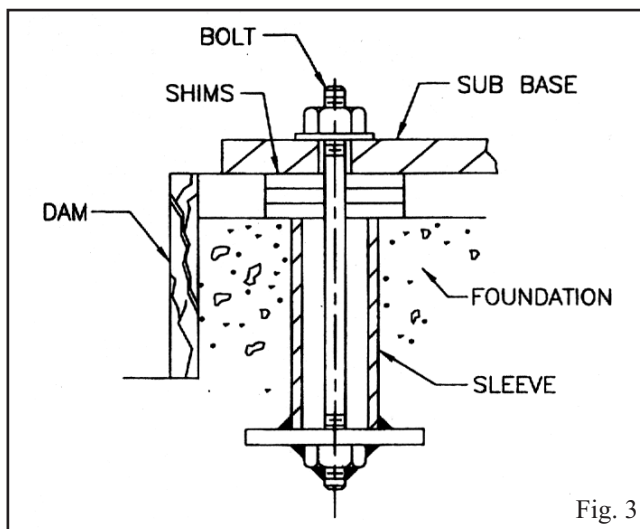

Fig. 3
3. The foundation must be of adequate strength to support the complete weight of the pump plus the weight of the liquid passing through it. A typical installation will have bolts with a pipe sleeve 2 1/2 times the bolt diameter embedded in the concrete, sized and located in accordance with the dimensions given on the Pump Certified Outline Drawing. The pipe sleeve allows movement for final positioning of the foundation bolts to conform to the holes in the Sub Base flange. Fig. 3 shows a typical installation.
- B. Leveling nuts on the anchor bolts (Fig. 3).
1. If a baseplate was supplied, install as described in Foundation/Piping Section (Figs. 3 & 4).
4. Install the barrel (can) to discharge head O-ring (743).